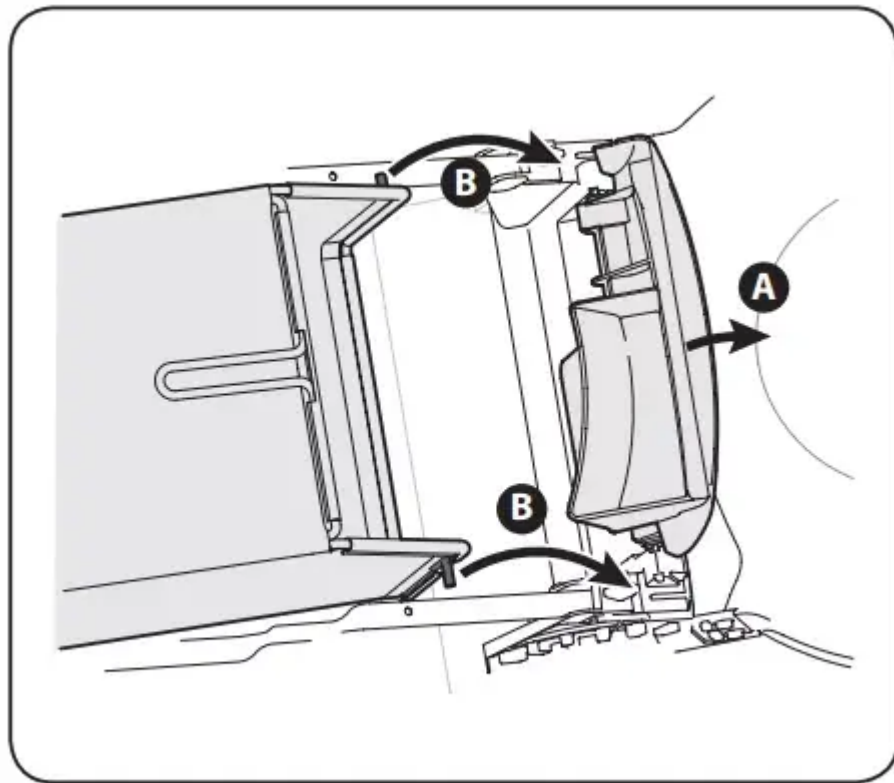

Figure 3-8
2. Place grass catcher into the slots in the handle brackets as shown in Fig. 3-8.